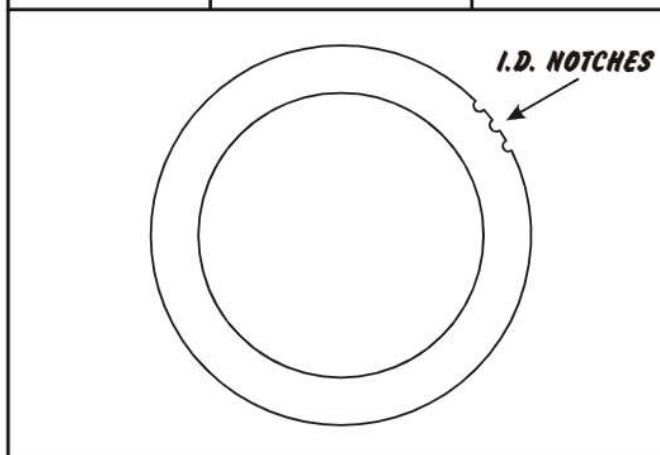

Figure 159
44. **Rear end clearance should be .008" to .012"**. Change the selective No. 4 thrust bearing using the chart in Figure 159, as necessary to arrive at the proper end play.